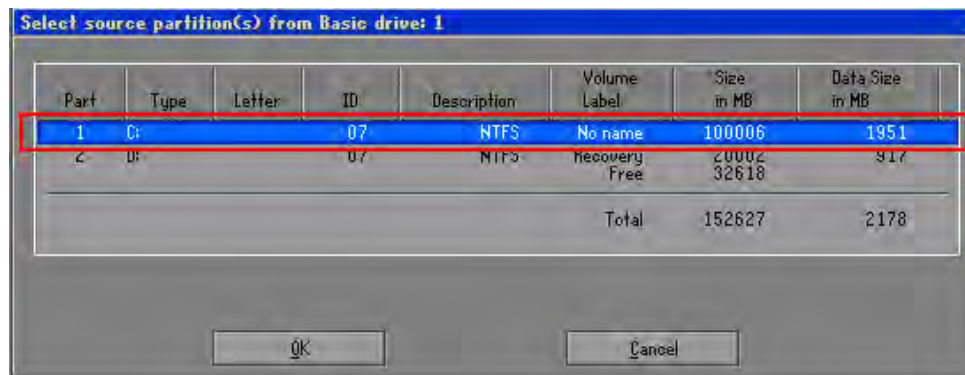

Figure B-15: Select a Source Partition from Basic Drive
Step 6: Select a source partition (Part 1) from basic drive as shown in **Figure B-15**. Then click OK.